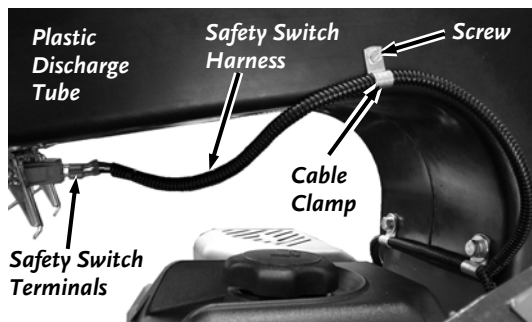

Figure 14
15. Connect the Safety Harness onto the Terminals of the Bag Safety Switch (**Figure 14**) and secure the Cable Clamp to the hole in the side of the Plastic Discharge Tube with the Self Tapping Screw using a 5/16" Wrench.